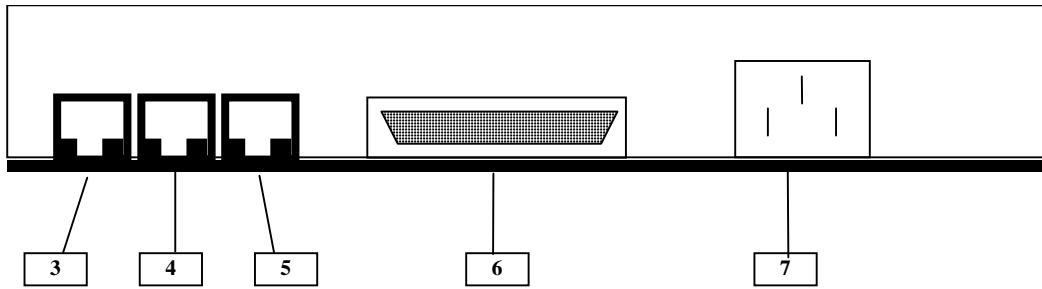

Figure 65: CXR 2885P, standalone version – rear view
The CXR 2885P modem standalone rear panel includes (Figure 65) :
- Check that all cables are well plugged on the Modem side, as well as on the others LRU side (Refer to Figure 65).
- To switch ON the modem, plug the power supply cable on the rear of the modem (Figure 65).
- To switch OFF the modem, unplug the power supply cable on the rear of the modem (Figure 65).
- Reconnect all the cables to the new Modem (Refer to Figure 65).